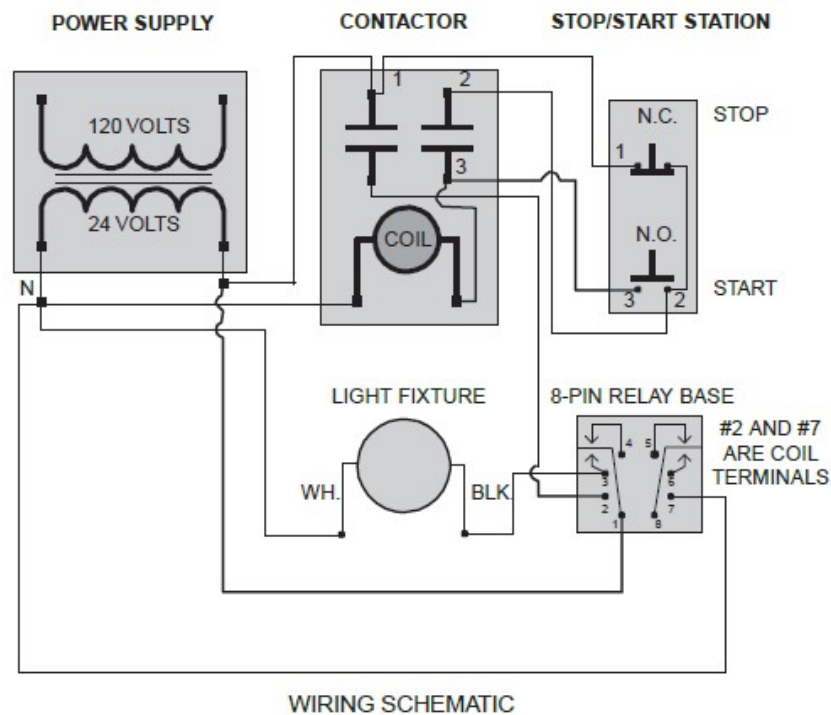

Figure 1 ■ Wiring Schematic for Adding an 8-Pin Relay to a Lighting Contactor Control Circuit
3. Refer to *Figure 1* for the wiring schematic.
4. Cut the necessary lengths of red or black wire and wire the relay base according to the schematic in *Figure 1*.